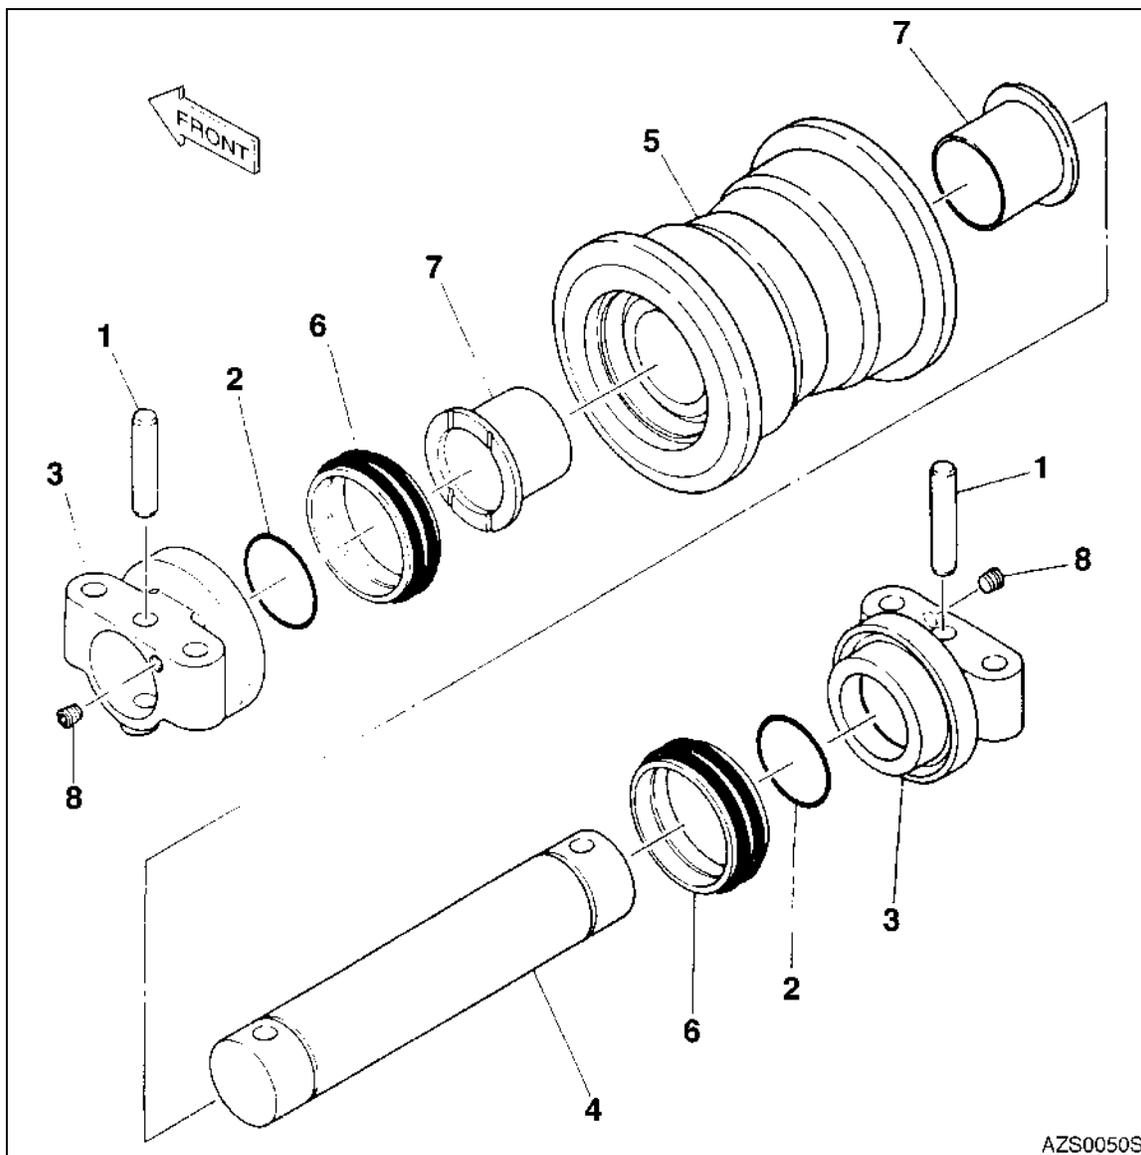

Figure 29
**NOTE:** An exploded view of the lower roller is shown in Figure 29.